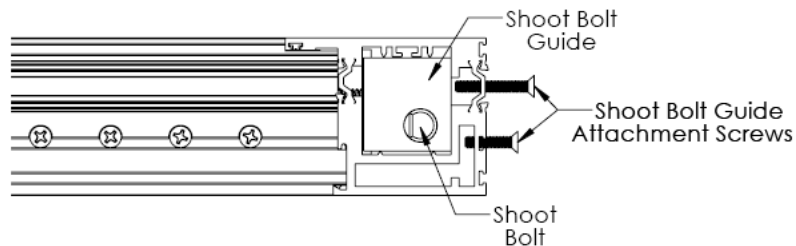

Figure C1:
4. Where the panel stiles contain a Shoot Bolt, the Shoot Bolt Guide will need to be removed to access the Corner Key Nut. Using a Phillips screwdriver remove the 2 guide screws then remove the guide (Figure C1).